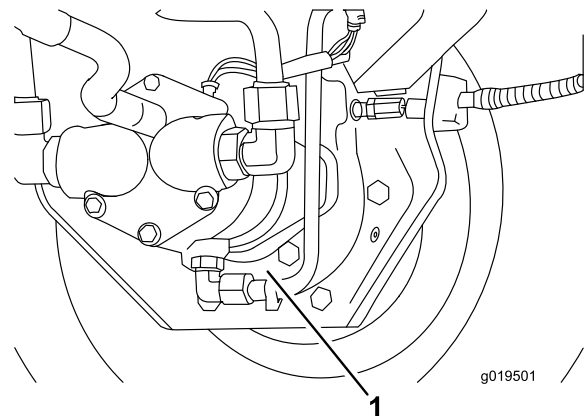

Figure 65
3. Place a drain pan under the brake housing, remove the drain plug and allow the oil to drain (Figure 65).